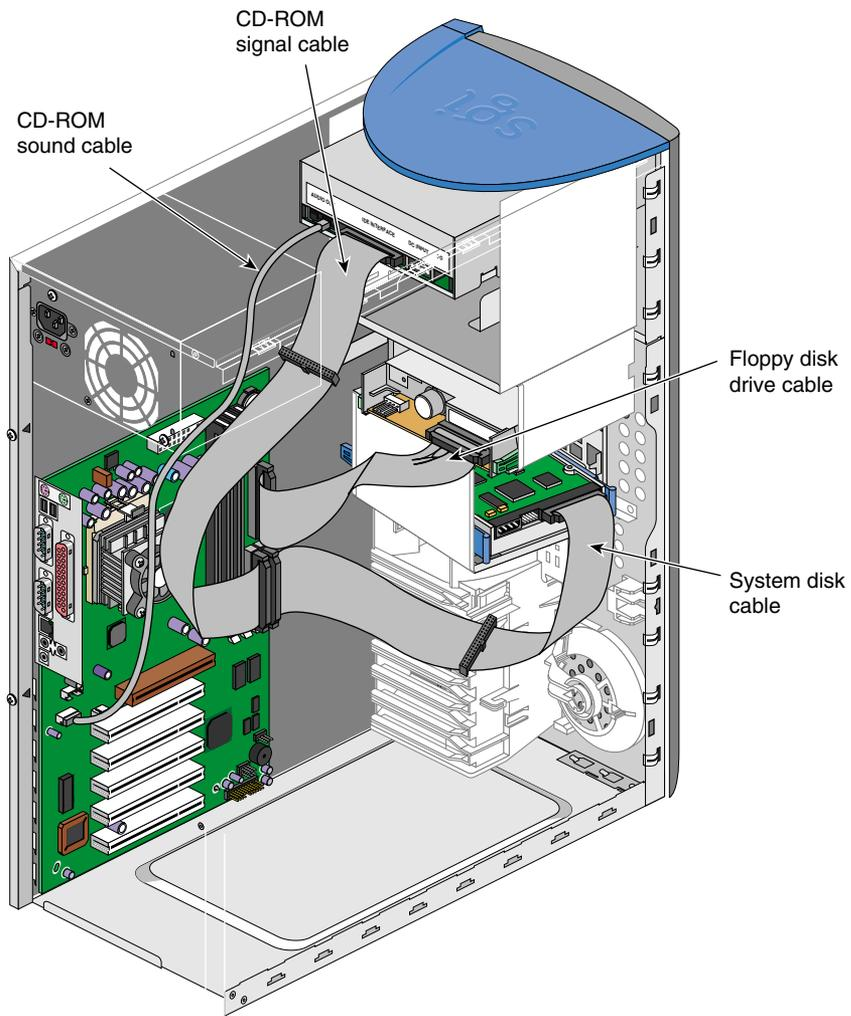

Figure 2-25 Location of System Board Connectors
6. Connect all system board cables to their connectors. Refer to Figure 2-25 and Figure 3-1 on page 61 for the location of the system board connectors.